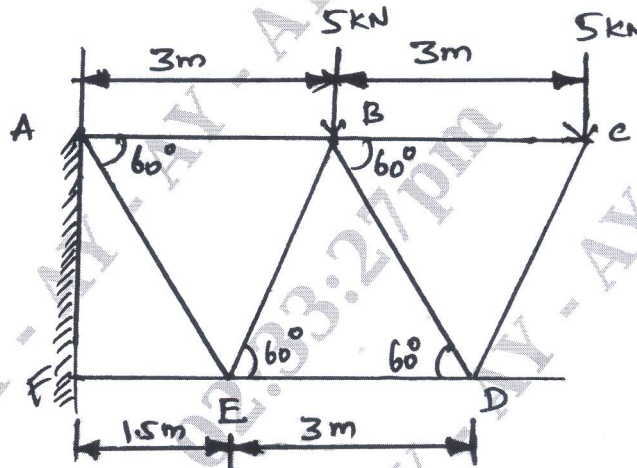

Fig Q8(b)
- b. Determine the forces in all the members of a cantilever truss as shown in Fig Q8(b).